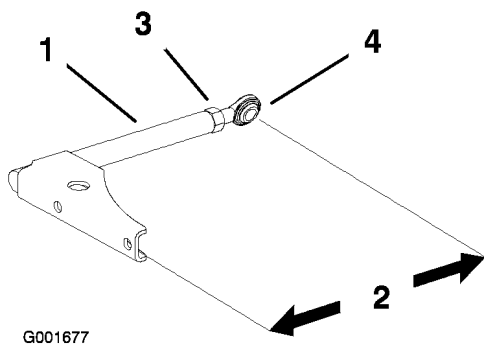

Figure 48
1. Loosen the jam nut and rotate the ball joint counterclockwise, one turn at a time (Figure 48).
2. Adjust each side the same amount. Each push arm should have a nominal length of 13-1/2 inch (34 cm) at a 15 degree twist (Figure 48).